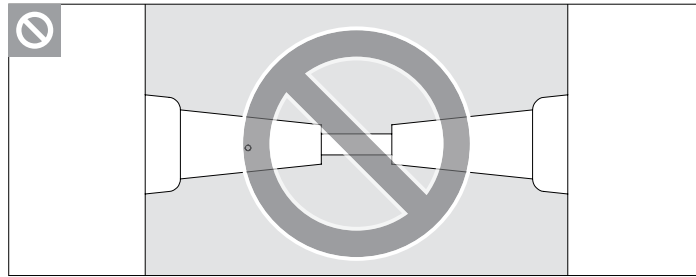

Fig. A2.01
- ⇒ The installation of two cones against each other is not allowed. (Fig. A2.01)